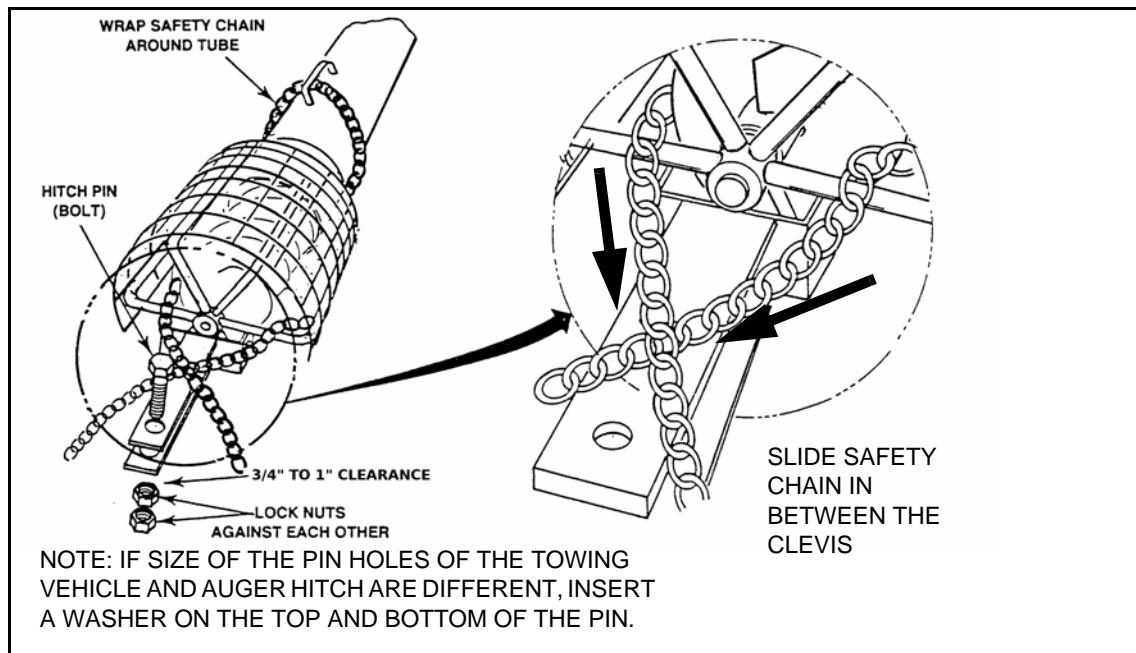

Figure 4.1
Important: *Use a type of hitch pin (see Figure 4.1) with a load rating that at least matches the carrying capacity of the towing vehicle.*
5. Thread the safety chain through the handle on the lower tube, wrapped around the auger and slipped through the clevis (see *Figure 4.1*) before securely attaching to the towing vehicle. Leave chain slack enough for angular movement.
Important: *Use a type of hitch pin (see Figure 4.1) that will not allow auger to separate from towing vehicle.*